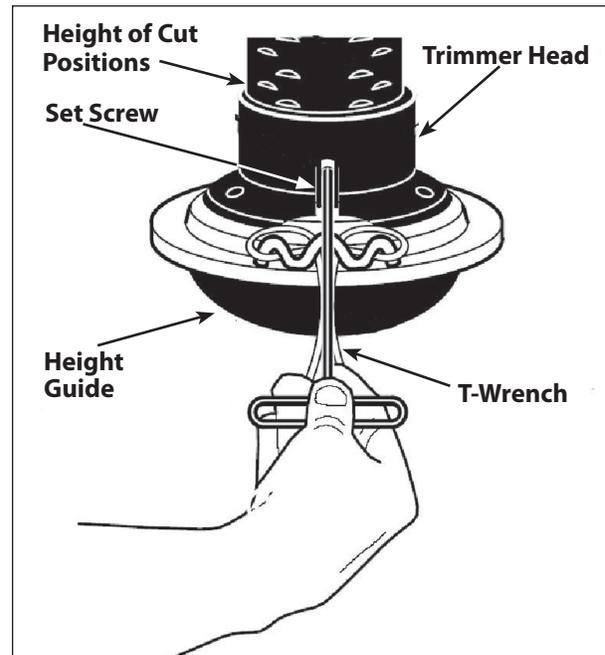

Figure 16: Setting the height of your cut.
The height of the cut can be set from 1-1/2 inches to three inches. The recommended cutting height for the average yard is 2 inches. **SEE FIGURE 16.**
**SEE FIGURE 16.**